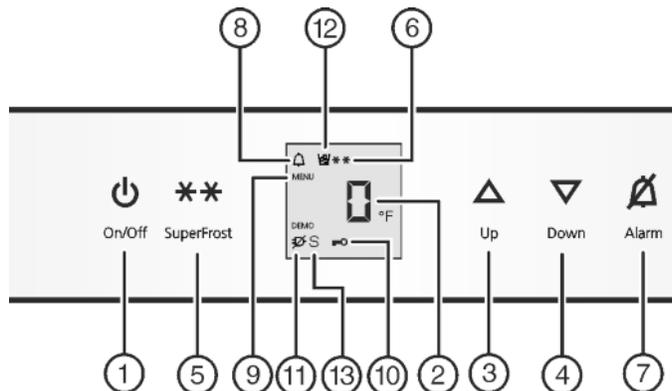

Fig. 2
- ▶ Press On/Off button *Fig. 2 (1)*.
- ▶ Activate setting mode: Press SuperFrost button *Fig. 2 (5)* for about 5 seconds.
- ▷ The Menu symbol *Fig. 2 (9)* lights up.
- ▶ Using Up button *Fig. 2 (3)*/ Down button *Fig. 2 (4)* select °.
- ▶ To confirm: Briefly press SuperFrost button *Fig. 2 (5)*.
- ▶ Using Up button *Fig. 2 (3)*/ Down button *Fig. 2 (4)* select °F or °C.
- ▶ To exit setting mode: Press On/Off button *Fig. 2 (1)*.
- ▶ Activate setting mode: press and hold the SuperFrost button *Fig. 2 (5)* for approximately 5 s.
- ▶ Using the Up button *Fig. 2 (3)* or Down button *Fig. 2 (4)*, select c.
- ▶ Press the SuperFrost button *Fig. 2 (5)* briefly to confirm. When c! is shown on the display:
- ▶ To switch on the child-proof lock, press the SuperFrost button *Fig. 2 (5)* briefly.
- ▷ The Child safety symbol *Fig. 2 (10)* lights up. c flashes on the display. When c0 is shown on the display:
- ▶ To switch off the child-proof lock, press the SuperFrost button *Fig. 2 (5)* briefly.
- ▷ The Child safety symbol *Fig. 2 (10)* goes out. c flashes on the display.
- ▶ Deactivate setting mode: press the On/Off button *Fig. 2 (1)*.
- ▶ Press Alarm button *Fig. 2 (7)*.
At the same time, the Alarm symbol *Fig. 2 (8)* will flash.
The audible warning automatically ceases, the Alarm symbol *Fig. 2 (8)* goes out, and the temperature display stops flashing when the temperature is cold enough again.